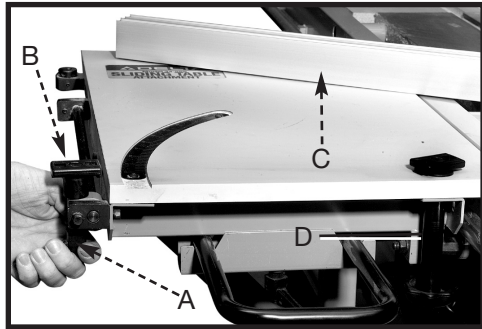

Fig. 68
1. Loosen the clamp handle (A) and the clamp knob (D) Fig. 68. Slide the fence (C) Fig. 68 from the two fence clamps (B).
2. Remove the fence locking handle, the clamp knob, and the fence clamps (B) and re-position the fence clamps (B), clamp handle, and clamp knob to the rear of the sliding table (Fig. 68).